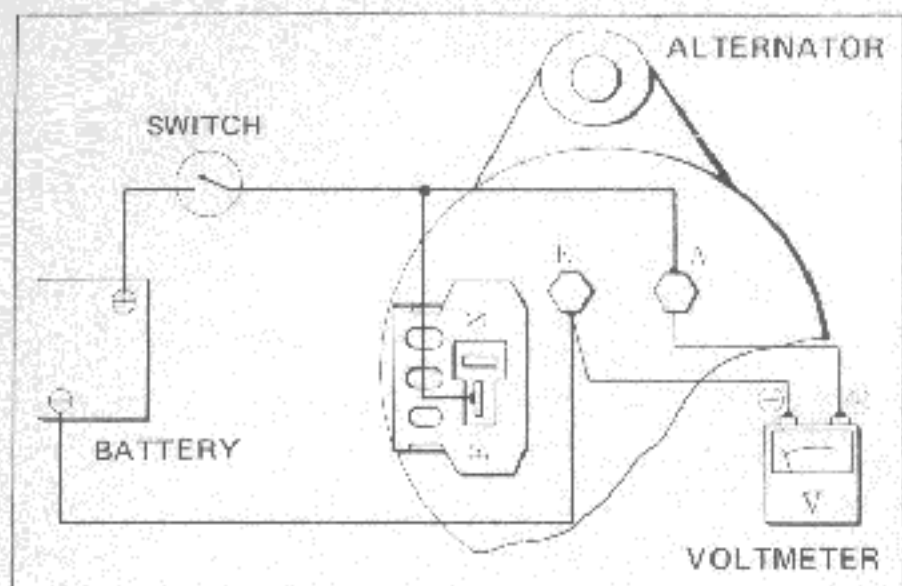

Fig. EE-47 Circuit diagram for measurement of output (I)
1. Connect a battery and voltmeter as shown in Figure EE-47, and rotate the alternator.